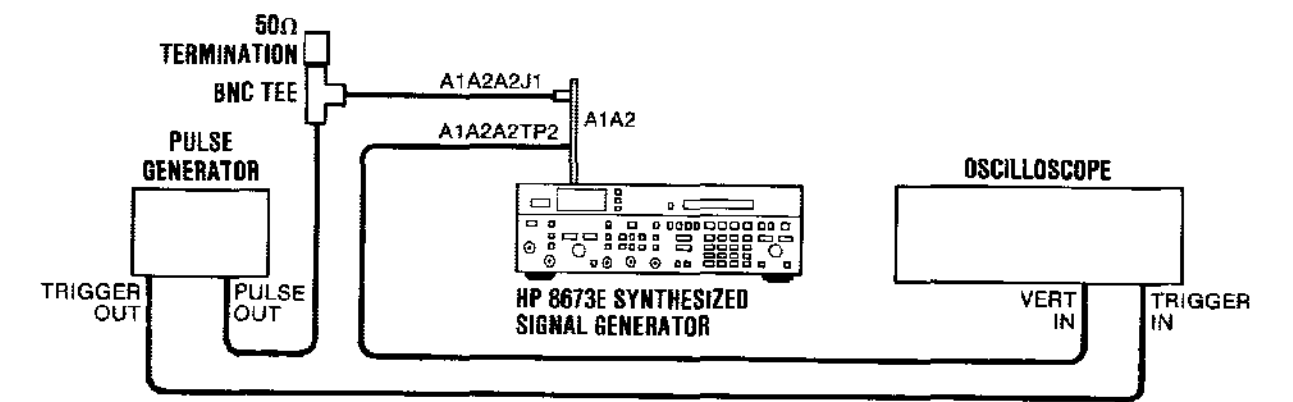

Figure 8-117. Detector Board Assembly Troubleshooting Test Setup
6. Connect the equipment as shown in Figure 8-117. Set the oscilloscope input to 50Ω.